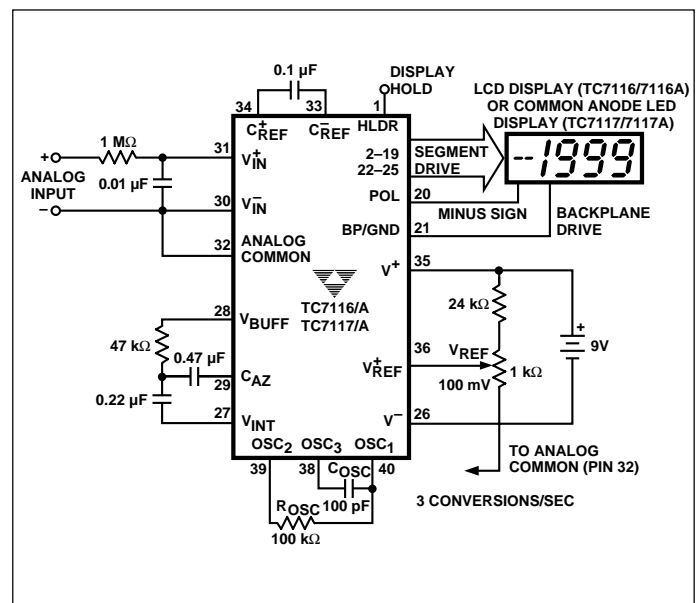

Figure 1. Typical TC7116A/7117A Operating Circuit
3. Unless otherwise noted, specifications apply at  $T_A = +25^\circ C$ ,  $f_{CLOCK} = 48kHz$ . TC7116/TC7116A and TC7117/TC7117A are tested in the circuit of Figure 1.